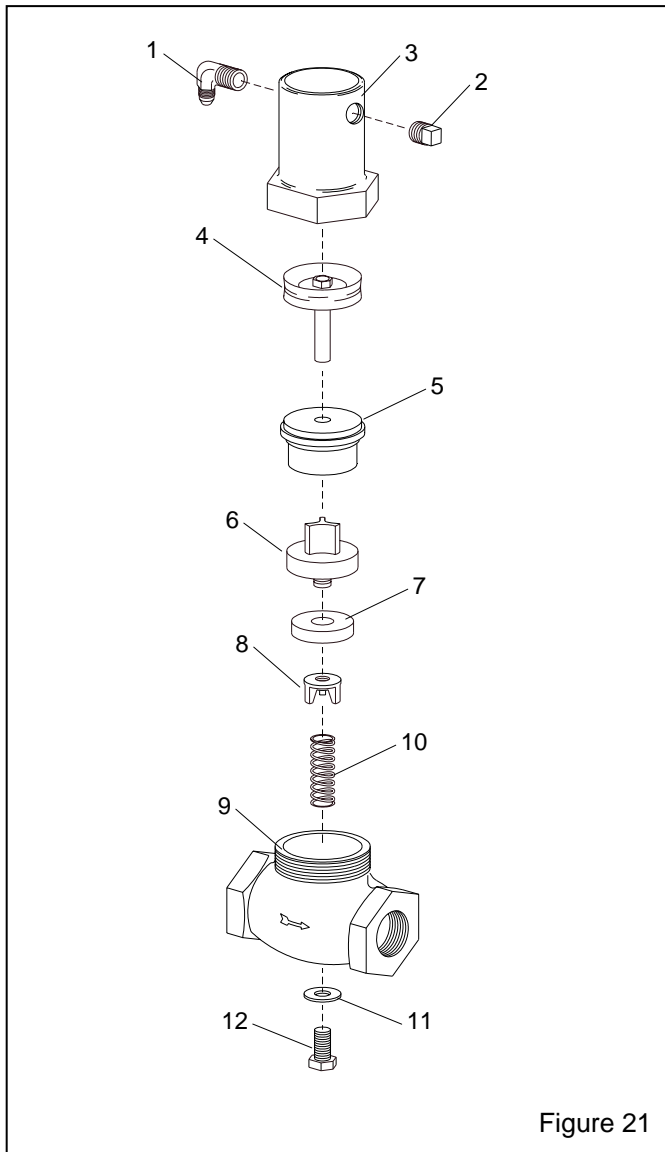

Figure 21
9.5 1" Piston Outlet Valve, Figure 21